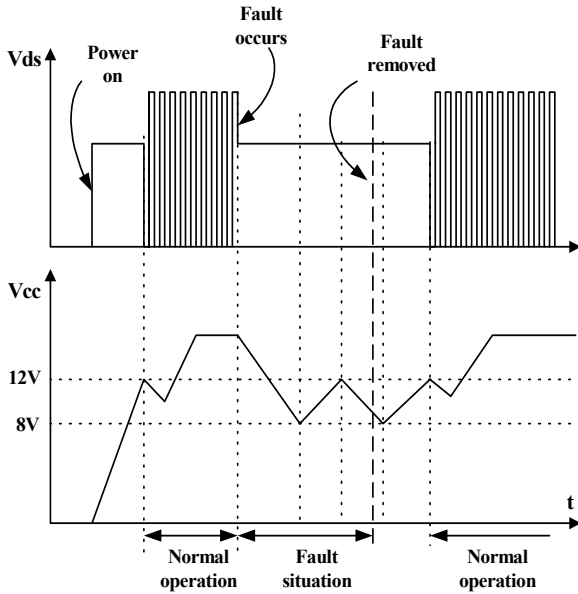

Figure 6. Auto restart operation
3. Protection Circuit : The FSDM0565R has several self protective functions such as over load protection (OLP), abnormal over current protection (AOCP), over voltage protection (OVP) and thermal shutdown (TSD). Because these protection circuits are fully integrated into the IC without external components, the reliability can be improved without increasing cost. Once the fault condition occurs, switching is terminated and the Sense FET remains off. This causes Vcc to fall. When Vcc reaches the UVLO stop voltage, 8V, the protection is reset and the internal high voltage current source charges the Vcc capacitor via the Vstr pin. When Vcc reaches the UVLO start voltage, 12V, the FPS resumes its normal operation. In this manner, the auto-restart can alternately enable and disable the switching of the power Sense FET until the fault condition is eliminated (see figure 6).